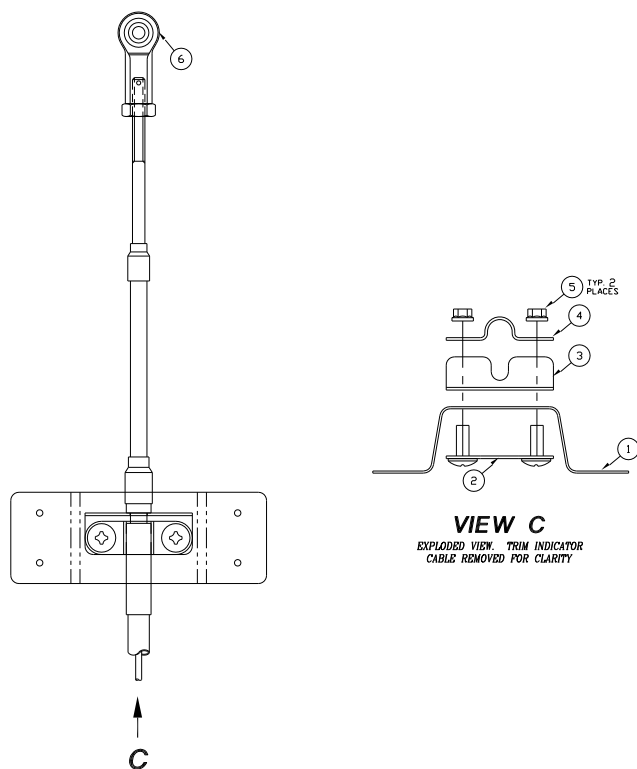
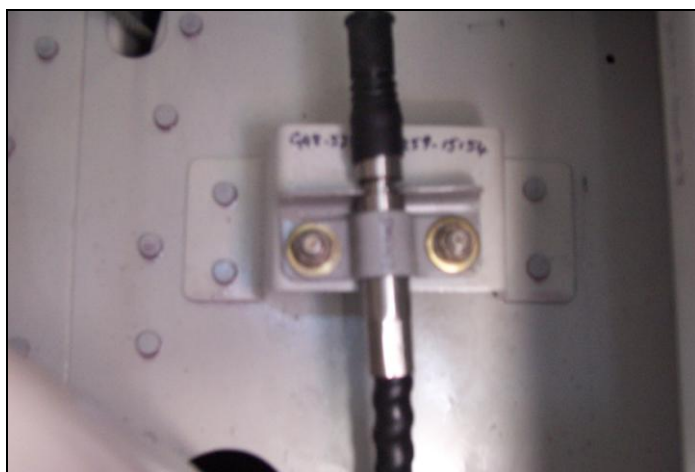

Figure 4 (View B)
Figure 7
- 2.2. Remove the bolt and washers attaching the rod end (item 6, figure 4) to the horizontal stabiliser front spar.
- 3.2. Unscrew and remove the nuts (figure 4, item 5) attaching the cable clamp components (figure 4, items 3 and 4) to the mount (figure 4, item 1).
- 3.4. Remove the screw assembly (figure 4, item 2) from the mount.
- 3.7. Reinstall the screw assembly into the new holes from underneath the mount in accordance with figure 4.
- 3.8. Reinstall the cable clamp components (figure 4, items 3 and 4) with the cable between them over the screws in accordance with figure 4.
- 3.9. Fasten the nuts (figure 4, item 5) on the 10-32 screws and torque in accordance with Chapter 20, Table 1 of the GA8 Service Manual. Figure 7 shows an example of the completed modification of the trim indicator cable clamp mount.